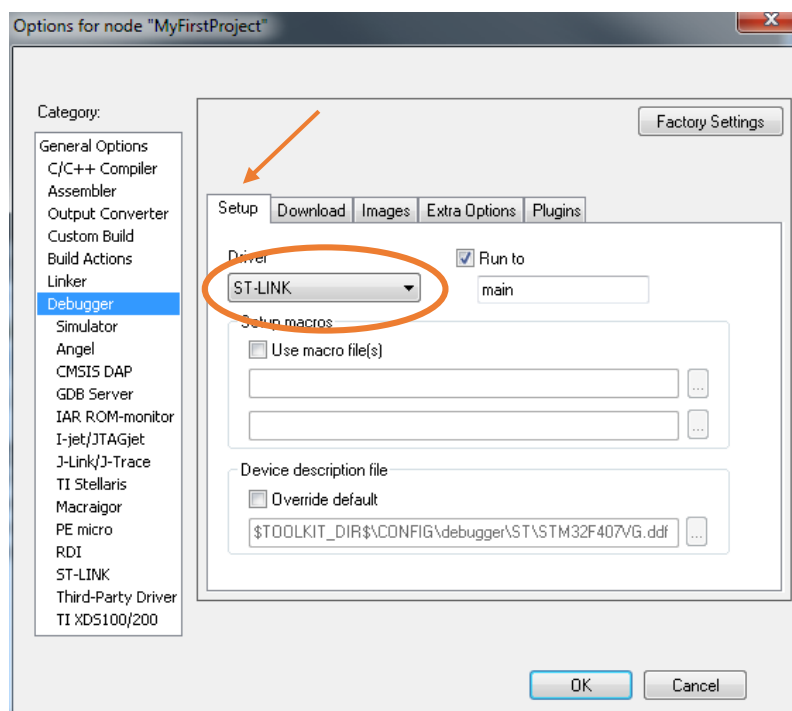

Figure 3.13: ST-LINK / 2 programmer is used for downloading and debugging
- We will use the ST-LINK / 2 programmer embedded onto the STM32F4-Discovery board to download and debug the machine code, so we need to tell the IAR EWB about our selection, see Fig. 3.13.
- When the first is desired, the step described in Fig. 3.13 must be different: the “Simulator” must be selected instead of “ST-LINK”. The machine code will not be sent to the microcontroller, but kept inside the personal computer instead. The personal computer will read the machine code step by step and simulate the behavior of real microcontroller. This mode is essential for testing algorithms for all possible values of input variables, but cannot simulate the real hardware (interrupt requests, timers/counters, ADCs, DACs, ...).